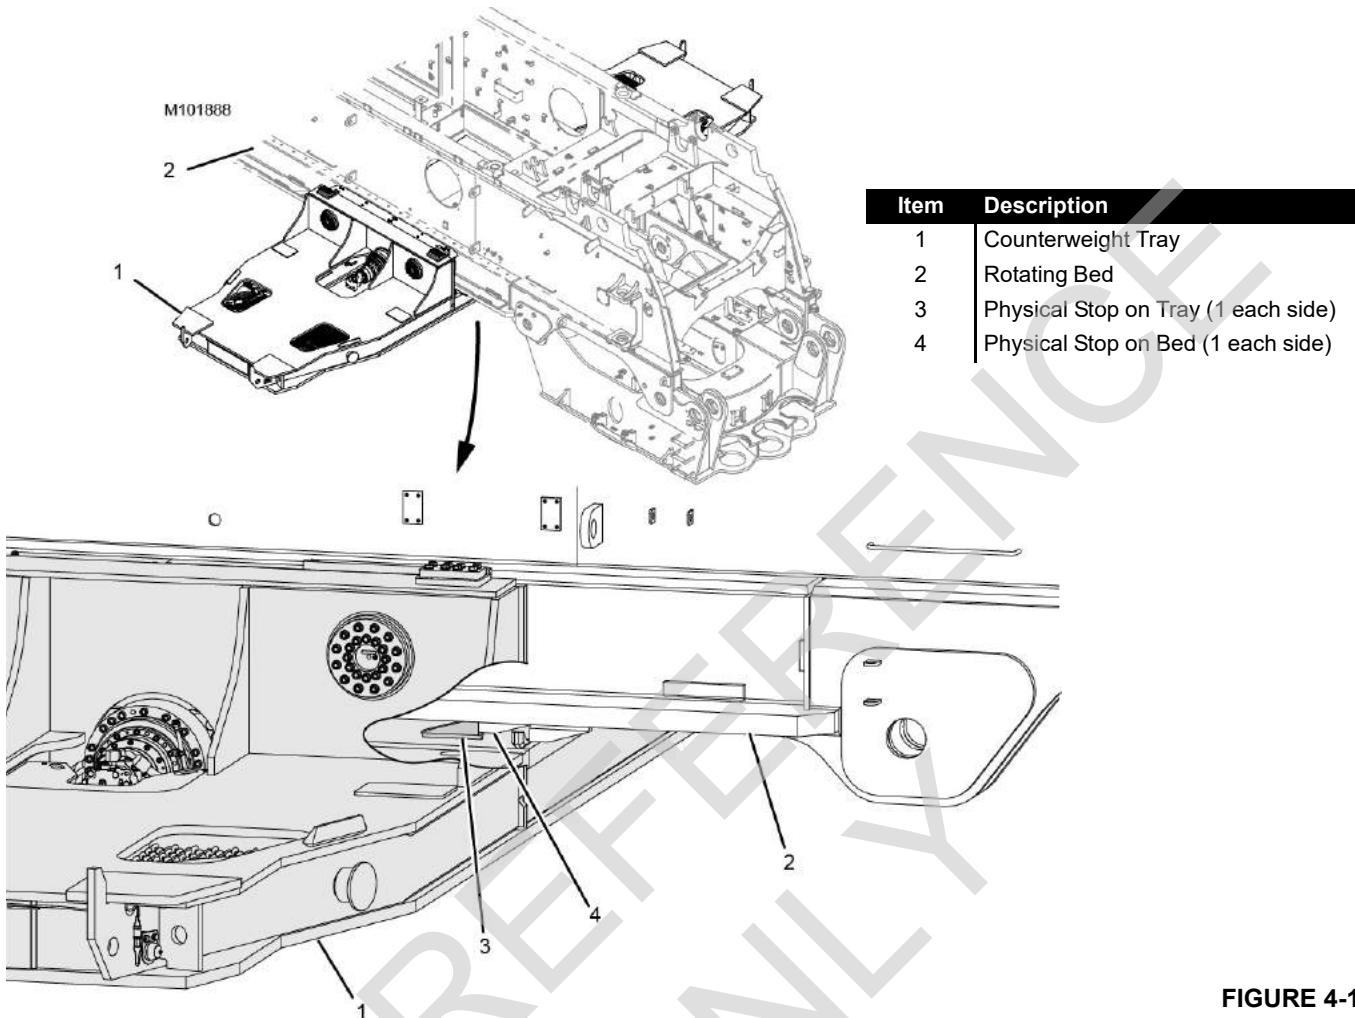

FIGURE 4-119
To prevent the crane from tipping and the counterweight boxes from falling off the tray during disassembly, do not remove the counterweight boxes until the counterweight tray is traveled to the position in step 1 shown in Figure 4-119. The crane will tip.
tray (3, Figure 4-119) contacts the physical stop on the bed (4).